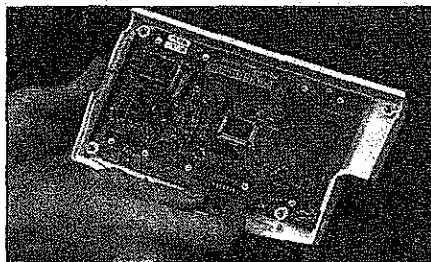

Figure 23
2. Disconnect the membrane switch mylar ribbon cable from the display PCB (see Figure 23).